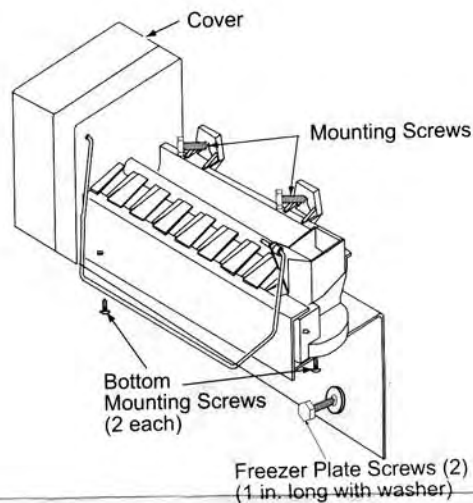
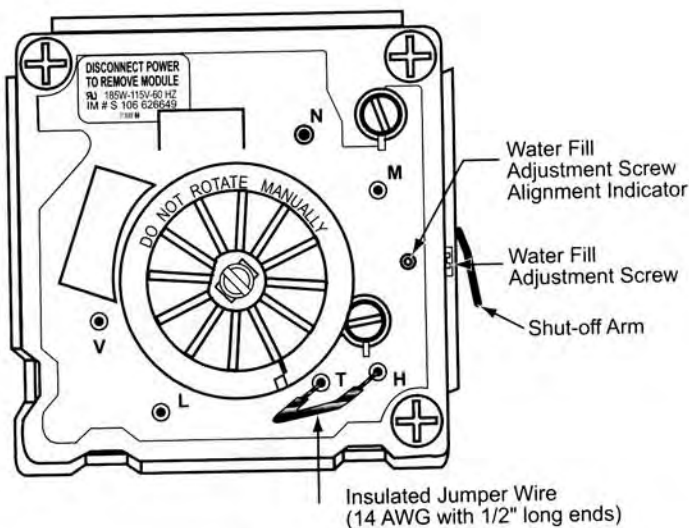

Figure 4. Mounting screws location.
Figure 5. Test points.
On 1200LRIM refrigerators, the ice maker must be removed to allow removal of module cover to access test points. See Figure 4 for mounting screws location. Figure 5 shows test points location.
5. With an insulated jumper wire (14 AWG recommended. Strip 1/2 inch of insulation from each end), short terminals T and H. See Figure 5. The following events should take place during the cycle:
Each 1/4 turn varies the fill by 0.34 fl.oz. (10 mL). The small hole in the water fill screw adjustment indicator should be centered in the module casing hole (see Figure 5).